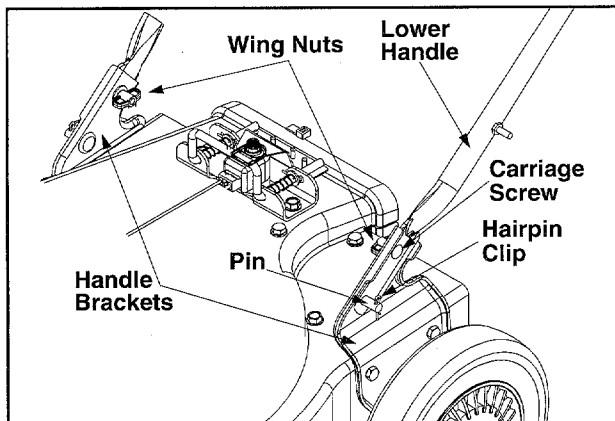

Figure 3
- Remove the hairpin clips from the handle brackets and the carriage screws and wing nuts from the lower handle. See Figure 3.